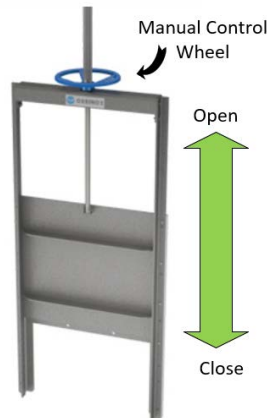

Figure 2-13: Weir with Control Wheel
- Manual, mechanical sluice gate (Figure 2-13 on page 17).